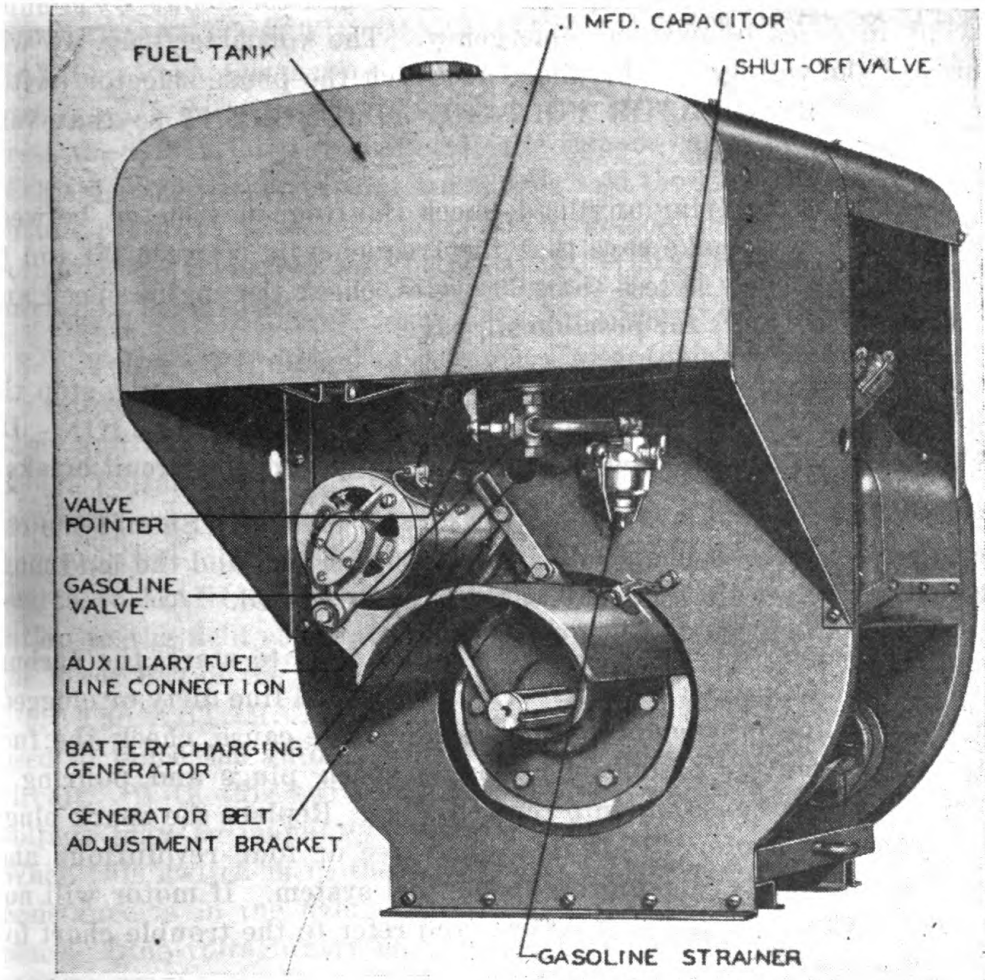

Figure 11.—Engine, Showing Fuel Line
(1) Adequate ventilation is necessary while engine operates in order to carry away fumes from exhaust leaks and to replenish the supply of oxygen.
(2) Locate the unit so that the exhaust end is near to and facing an opening to the outdoors. The muffler should be attached to the exhaust hose and the unattached end of the exhaust hose should be attached to the engine exhaust. Make all connections gas tight. Locate the unit so that the exhaust hose is as free of bends as possible to prevent excessive back pressure and so that the length of hose indoors is as short as possible.
e. When fuel is to be taken from a remote supply tank connect the 20-foot flexible fuel line supplied with the unit to the 3-way valve below the fuel tank (see figure 11) and carry the other end to the remote fuel supply. The remote fuel supply should be so located that the total fuel lift by the fuel pump will not be more than 6 feet.